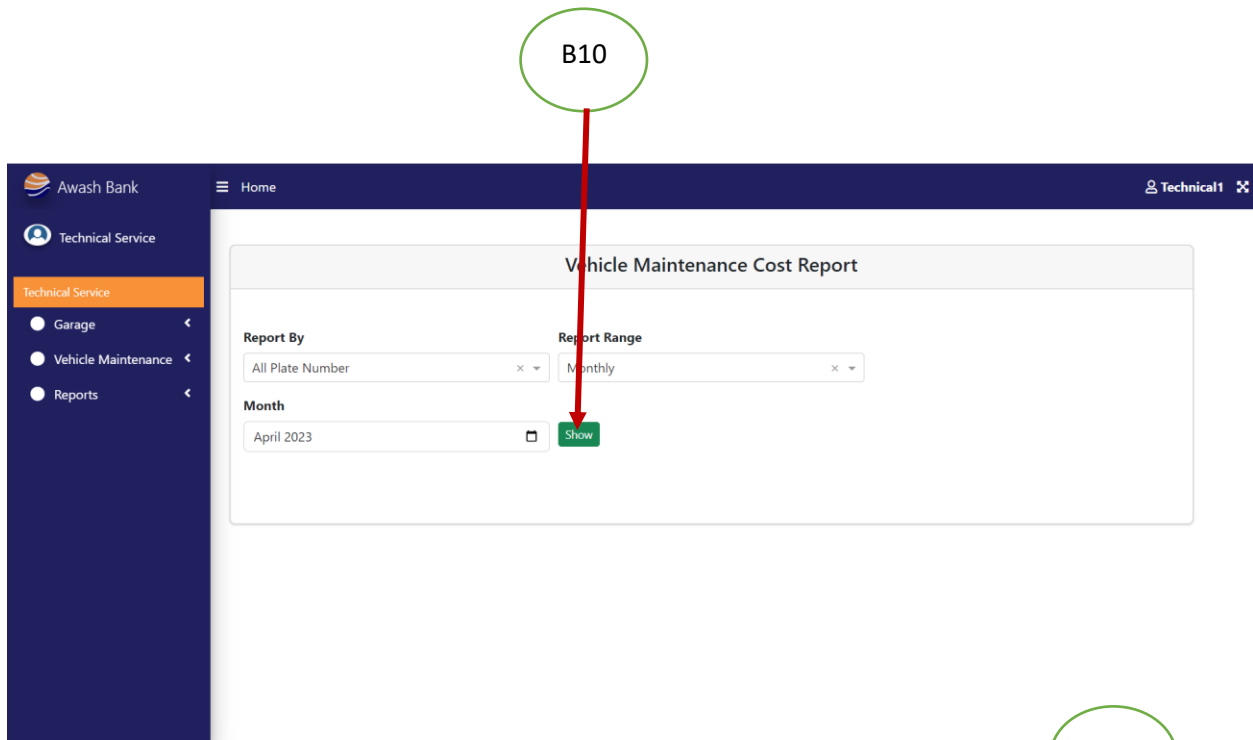

Figure 1.15: Show Button
- Click on the Show button(B10) (Fig: 1.15) to get the total maintenance cost